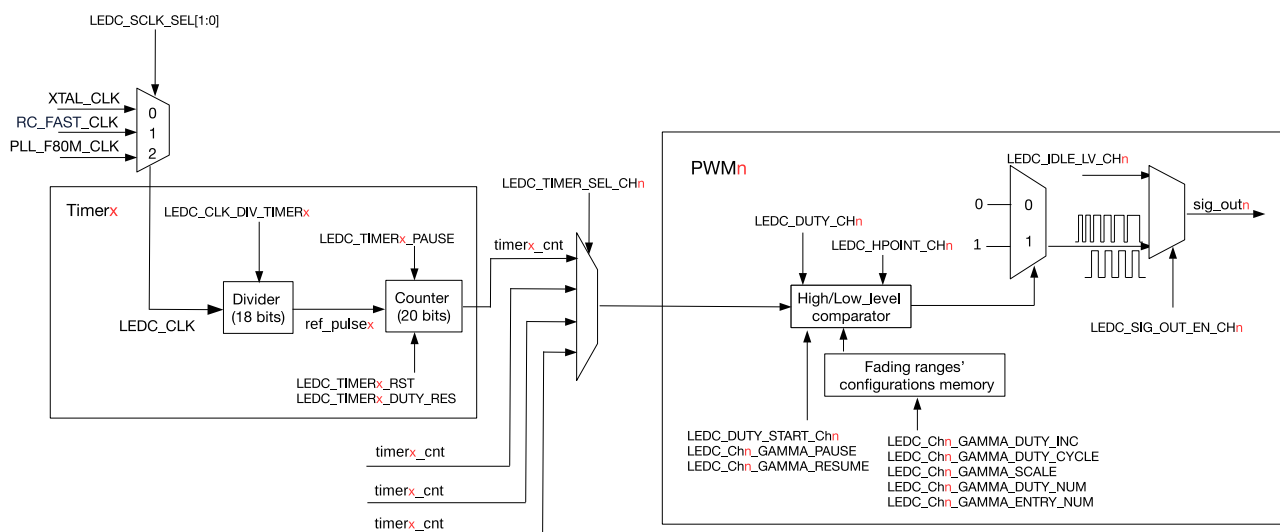
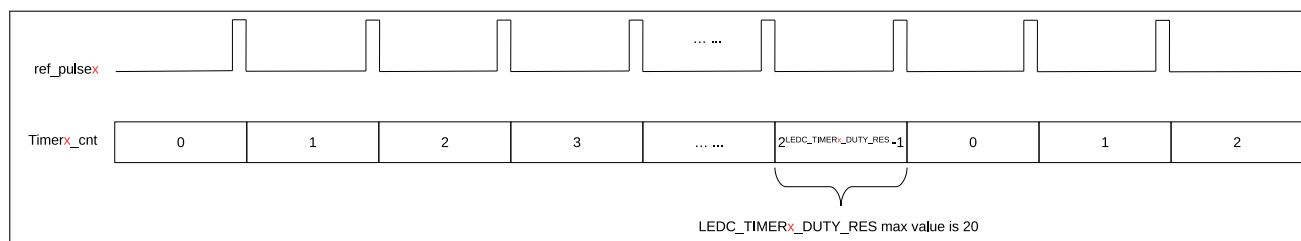

Figure 30.3-2. Timer and PWM Generator Block Diagram
Figure 30.4-2. Relationship Between Counter And Resolution
Figure 30.3-2 illustrates the main functional blocks of the timer and the PWM generator.
Each timer in LED PWM Controller internally maintains a timebase counter. Referring to Figure 30.3-2, this clock signal used by the timebase counter is named `ref_pulsex`. All timers use the same clock source `LEDC_CLK`, which is then passed through a clock divider to generate `ref_pulsex` for the counter.
The LEDC_CLK signal is passed through a clock divider to generate the `ref_pulsex` signal for the counter. The frequency of `ref_pulsex` is equal to the frequency of LEDC_CLK divided by the divisor LEDC_CLK_DIV (see Figure 30.3-2).
Each timer contains a 20-bit timebase counter that uses ref_pulse_x as its reference clock (see Figure 30.3-2). The `LEDC_TIMERx_DUTY_RES` field configures the actual used bit width of this 20-bit counter. Hence, the maximum resolution of the PWM signal is 20 bits. The counter counts up to $2^{\text{LEDC\_TIMER}_x\text{\_DUTY\_RES}} - 1$, overflows and begins counting from 0 again. The counter's value can be read, reset, and suspended by software. Figure 30.4-2 shows the relationship between the counter and PWM resolution.
Referring to Figure 30.3-2, the frequency of a PWM generator output signal (`sig_outn`) is dependent on the frequency of the timer's clock source `LEDC_CLK`, the clock divisor `LEDC_CLK_DIV`, and the duty resolution (counter width) `LEDC_TIMERx_DUTY_RES`:
As shown in Figure 30.3-2, each PWM generator has a comparator and two multiplexers. A PWM generator compares the timer's 20-bit counter value (`Timerx_cnt`) to two trigger values `Hpointn` and `Lpointn`. When the timer's counter value is equal to `Hpointn` or `Lpointn`, the PWM signal is high or low, respectively, as described below:
- `LEDC_TASK_SIG_OUT_DIS_CH $n$` : If the `LEDC_TASK_SIG_OUT_DIS_CH $n$ _EN` field is enabled, upon receiving the `LEDC_TASK_SIG_OUT_DIS_CH $n$` task, PWM n 's signal output is disabled, and the output signal (`sig_out $n$`) outputs a constant level as specified by field `LEDC_IDLE_LV_CH $n$` , as shown in Figure 30.3-2.